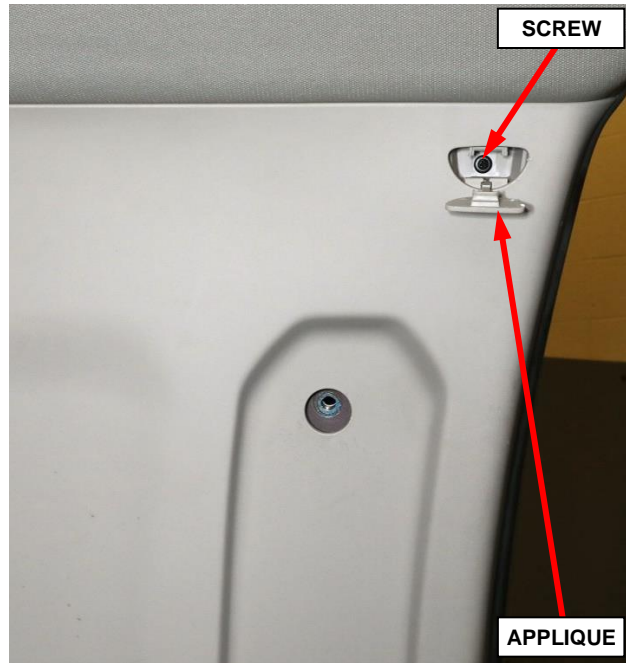

Figure 27 – C-Pillar Upper Trim Panel
14. Using a trim stick or equivalent, release the C-pillar airbag applique then remove the screw that secures the upper trim panel (Figure 27).
50. Install and tighten the screw that secures the C-pillar upper trim panel. Then install the airbag applique (Figure 27).